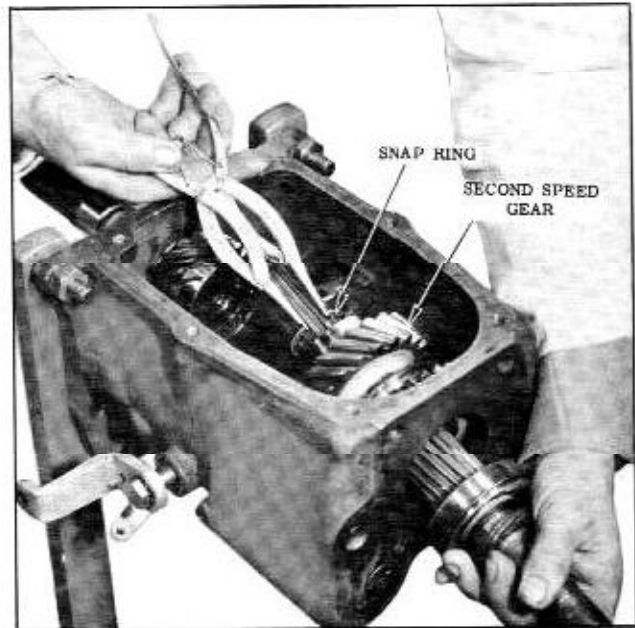

Fig. 11-10 Removing Second Speed Gear Snap Ring
8. Remove the snap ring holding the second speed gear on the main shaft. (Fig. 11-10)